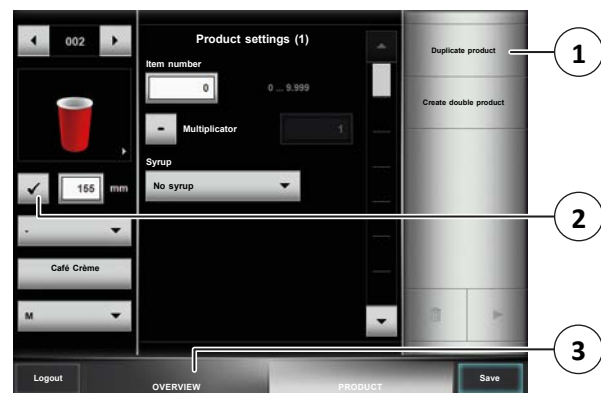

Fig. 34: Product settings
6. If you are in a product group, you can return to the start screen with the button “Overview” (3) (see Fig. 34).
- Press the button (1) (see Fig. 34).